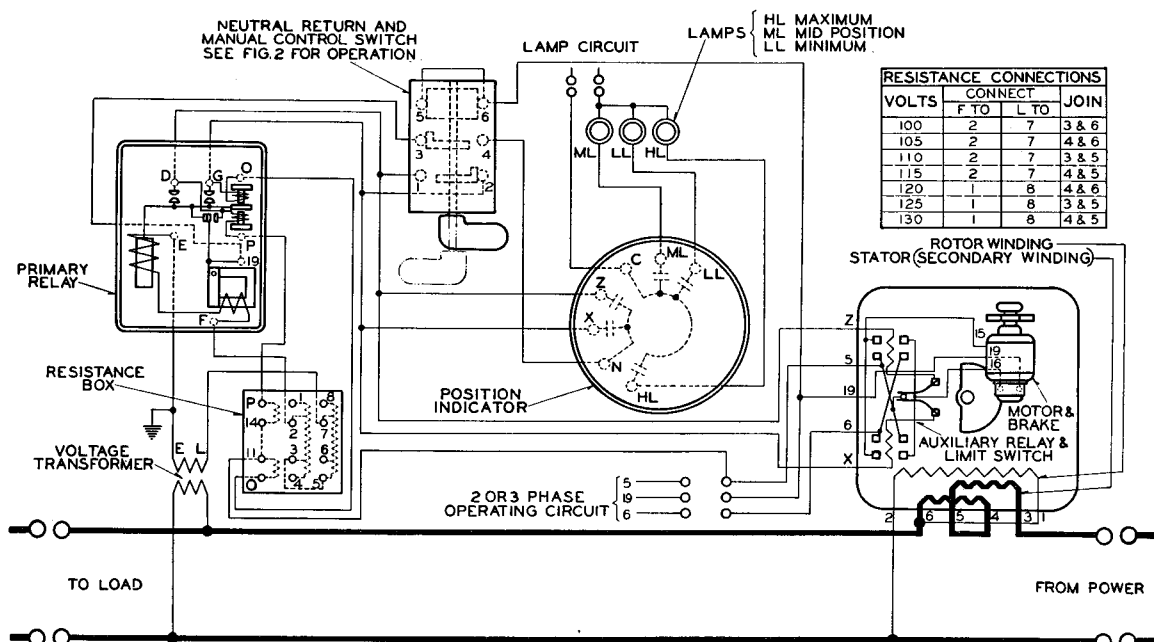

FIG. 17—DIAGRAM OF CONNECTIONS FOR AN AUTOMATIC REGULATOR INSTALLED AT THE LOAD (COMPENSATOR AND CURRENT TRANSFORMER NOT REQUIRED)
46. As shipped from the factory, relays are adjusted for a normal voltage of 110. This adjustment is made by connecting 110 volts across the main coil and a series resistor of approximately 220 ohms and adjusting the spring tension until the armature is midway between the compounding coils. The normal setting may be varied between 95 and 120 volts by changing the tension of this adjusting spring. For higher voltage the series resistance must be increased. This series resistor is mounted within the compensator and forms a part of the compensator. When no compensator is used a separately mounted series resistor must be furnished. (See Fig. 17).